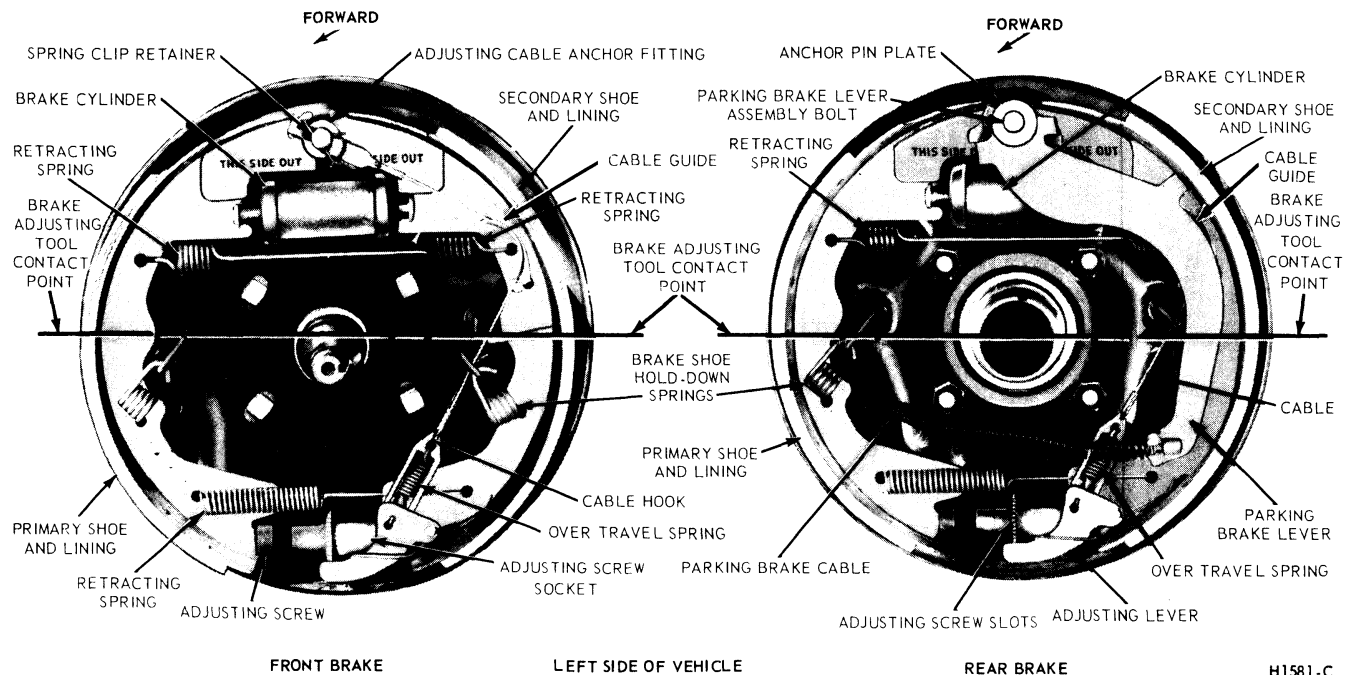

FIG. 9 Self Adjusting Brake Assemblies—F-250 (Heavy Duty)—350, E-300 and P-350-400
- On a front wheel, remove the spring-clip retainer fastening the adjusting cable anchor fitting to the brake anchor pin (Fig. 9).
- Clean the ledge pads (6) on the backing plate. Sand lightly to bare metal.
- Install the upper retracting spring on the primary and secondary shoes as shown in Fig. 9 and position the assembly on the backing plate with the wheel cylinder push rods positioned in the shoe slots.